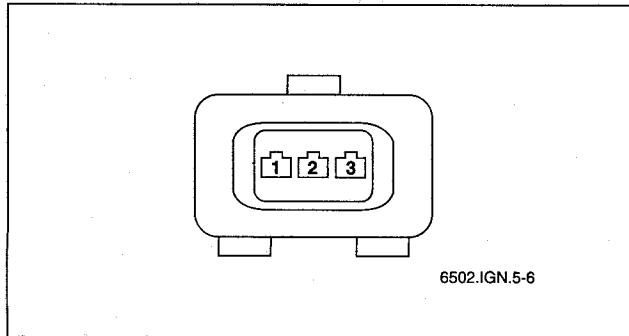

Fig. 10. Crankshaft position/rpm sensor connector.
2. Using a digital multimeter, check resistance between terminals 1 and 2 in connector. See Fig. 10.